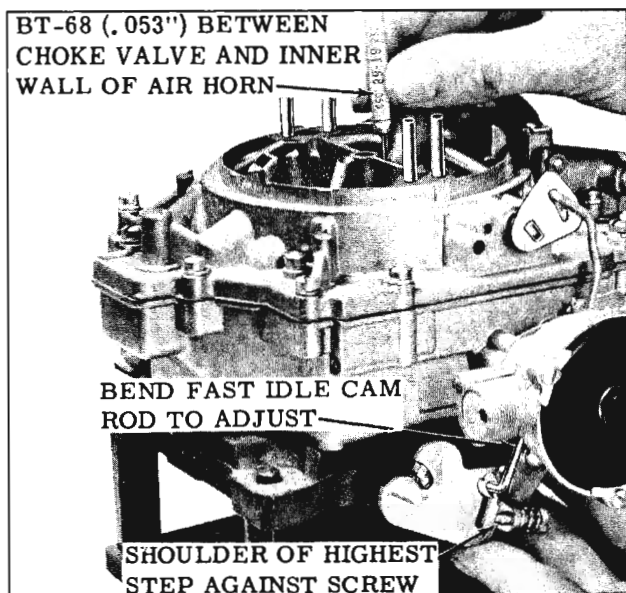

Fig. 9-25 Fast Idle Cam Rod Adjustment
2. With the shoulder of the highest step of the fast idle cam held against the fast idle screw, hold the intermediate choke lever in the extreme up position. The intermediate choke rod and the fast idle cam rod must be at the upper limit of travel in the slot to remove all travel. Check the clearance between the top edge of the choke valve and the dividing wall of the air horn. Check clearance with small end of gauge BT-68. Clearance should be .053". (Fig. 9-25)